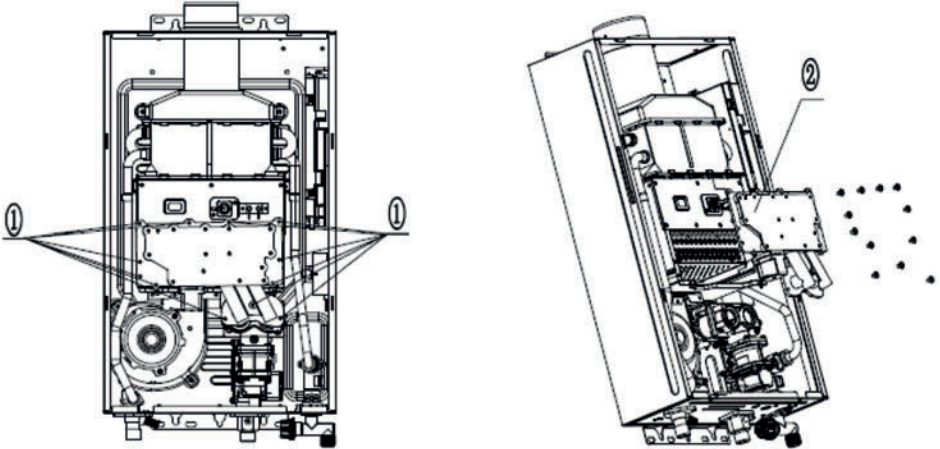

Figure 5.15
<p>Step 2 Replace gas tube assembly (Figure 5.15)</p>	<ol style="list-style-type: none">1. Screw off the gas tube assembly (1) and take it out (2).2. Change to the matched gas ejector tube assembly. Note: It's necessary to examine the air tightness after change, to check the seal ring on the gas control system installed well to prevent gas leakage.